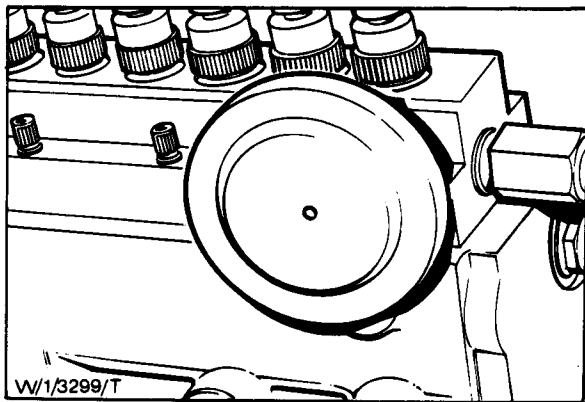

Fig. 25 - The Fuel Gallery Damper (Dover)
7. Remove the fuel gallery damper, if fitted (Fig. 25).